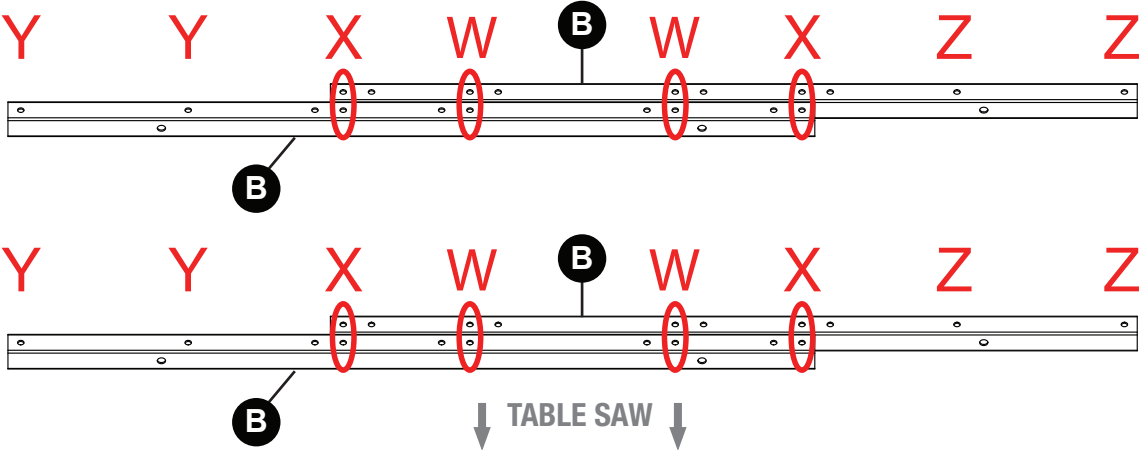
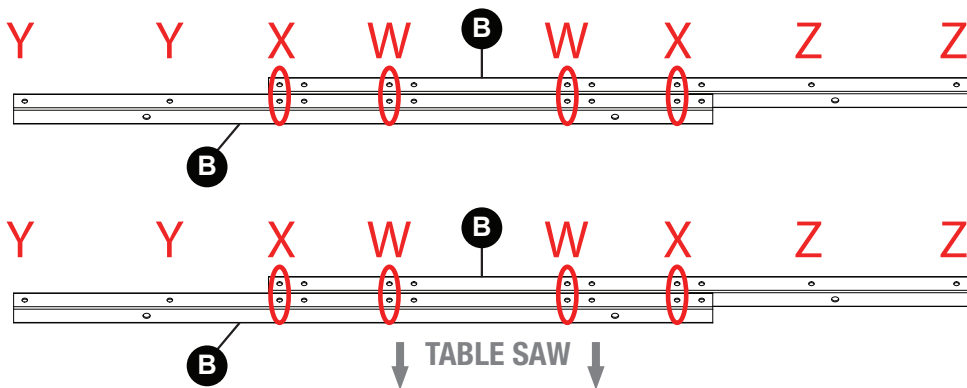

Fig. 16
Fig. 19
If all the mounting holes align, turn one of the tubes 180 degrees, so only the mounting holes at the ends line up. Then slide the table support tubes relative to one another until the non-overlapping portions of each tube have three mounting holes, and four mounting holes on each tube overlap, as indicated by the red circles in Fig. 16.
Align the mounting holes in the table tubes with the two sets of aligned holes in the center of the overlapping sections of the table support tubes (marked as holes “W” in Figure 16 on page 20). Insert an M6 x 35 socket head cap screw through one of the exposed mounting holes in one of the table tubes and table support tubes. Secure the socket head cap screw with an M6 x 16 washer and an M6 lock nut. Do not tighten the lock nut at this time.
If all the mounting holes align, turn one of the tubes 180 degrees, so only the mounting holes at the ends line up. Then slide the table support tubes relative to one another until eight mounting holes on each tube line up, as indicated by the red circles in Figure 19.
Align the mounting holes in the table tubes with the left holes in the two sets of four aligned holes in the table support tubes (marked as holes “W” in Figure 19 on page 22). Insert an M6 x 35 socket head cap screw through one of the exposed mounting holes in one of the table tubes and table support tubes. Secure the socket head cap screw with an M6 x 16 washer and an M6 lock nut. Do not tighten the lock nut at this time.
FOR  OR  SAWS ONLY: Position a solitary table tube (A) (not attached to a table roller) across the four table support tubes (B), with the clamp mounting holes on the end closest to the table saw. Align the mounting holes in the table tube with the set of aligned mounting holes in the table support tubes just to the side of the table tubes attached to the insert table (D) (marked as holes “X” in Fig. 16 on page 20).
Position the other solitary table tube (A) on the other side of the insert table, and align the mounting holes in the table tube with the set of aligned mounting holes in the table support tubes (B) just to the other side of the table tubes attached to the insert table (marked as holes “X” in Fig. 16 on page 20).
FOR CHS SAWS ONLY: Position a solitary table tube (A) (not attached to a table roller) across the four table support tubes (B), with the clamp mounting holes on the end closest to the table saw. Align the mounting holes in the table tube with the left two of the four aligned mounting holes to the side of the table tube attached to the insert table (D) (marked as holes “X” in Fig. 19 on page 22).
Slide the rear rail clamp onto the rear rail of your table saw, but do not tighten the set screw. Align the mounting holes in the table tubes with the mounting holes at the left end of the table support tubes (marked as holes “Y” in Fig. 16 on page 20), making sure that tube end caps are almost flush with the rear rail.
Slide the rear rail clamp onto the rear rail of your table saw, but do not tighten the set screw. Align the mounting holes in the table tubes with the mounting holes at the left end of the table support tubes (marked as holes “Y” in Fig. 19 on page 22), making sure that the ends of the table tubes are almost flush with the rear rail.
Position the remaining set of table tubes at the right end of the table support tubes, and slide the rear rail clamp onto the rear rail of the table saw. Align the mounting holes in the table tubes with the mounting holes at the right end of the table support tubes (marked as holes “Z” in Fig. 16 on page 20 or Fig. 19 on page 22), making sure that the ends of the table tubes are almost flush with the rear rail of the table saw.